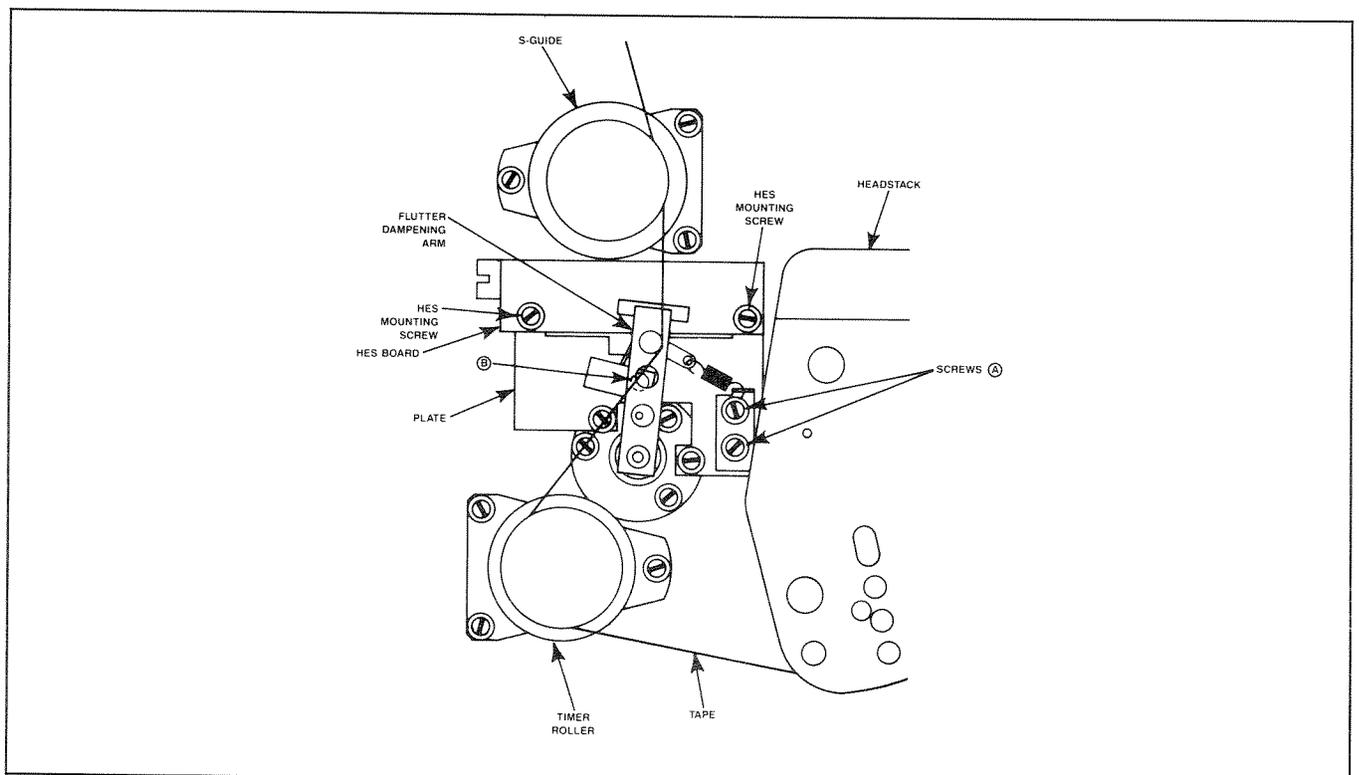

Figure 6-22. Flutter Dampening Arm Adjustment
- STEP 11** Loosen the screws labelled (A) and (B) in Figure 6-22.
- STEP 12** Press **PLAY**. Adjust the spring assembly by plate (secured by screws (A)) so that the flutter dampening arm assembly is parallel with the edge of the HES assembly and there is an equal distance between the assembly and either of the stops. Tighten screws (A).